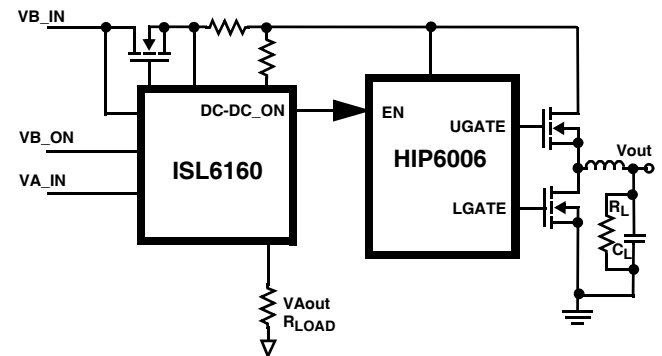
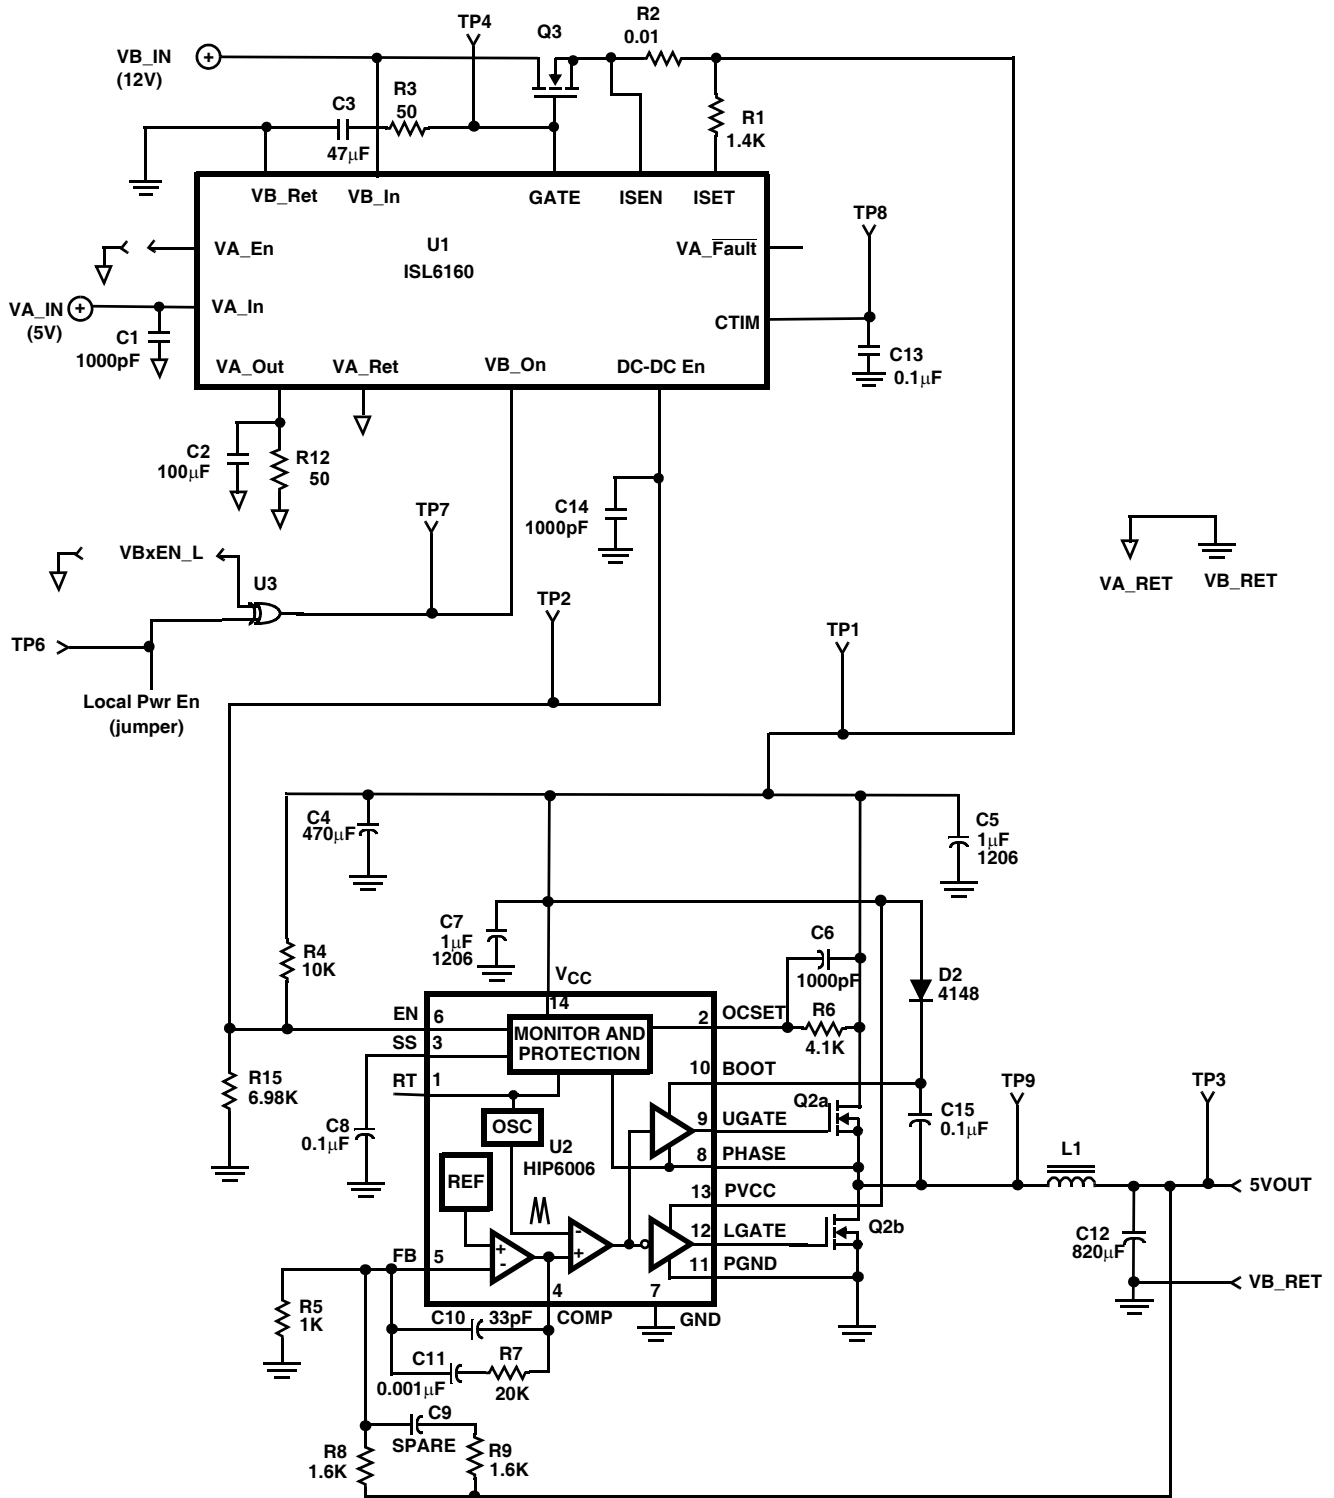

FIGURE 1. ISL6160EVAL2 BLOCK DIAGRAM
FIGURE 11. ISL6160EVAL2 SCHEMATIC
Intersil also provides the ISL6160EVAL2 concept evaluation platform. The ISL6160EVAL2 is a complete InfiniBand Class I (non isolated) power topology evaluation platform which highlights the operation of the ISL6160 and the HIP6006 single output PWM controller. See Figure 1 for a simplified block diagram of the ISL6160EVAL2 platform. This evaluation platform allows the InfiniBand Module (IM) power supply designer to evaluate the concept of this design and apply this concept to a specific IM power requirement. The evaluation platform is configured for 5V Vout and 3.5A max lout capability where it exhibits an efficiency of 85%, all in a small 1.6 sq" area. See Figure 11 for a complete ISL6160EVAL2 schematic.
The HIP6006 has a loss less overcurrent (OC) protection feature. This is accomplished via the current-sense function of the HIP600x family. The HIP6006 senses converter load current by monitoring the drop across the upper MOSFET (Q2a in the Figure 11 schematic) enhancing the converter's efficiency and reducing cost by eliminating a current sensing resistor.